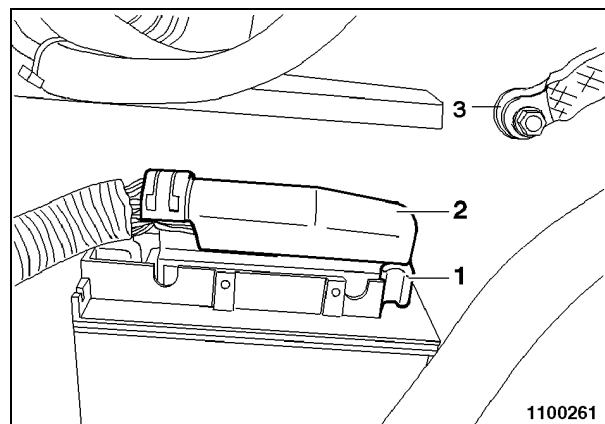

Fig. 7
The ESX is located to the right below the cab, beside the slewing ring. The grounding cable (3, Fig. 7) is located to the right beside the ESX.
- Withdraw arresting lever (1, Fig. 7) at plug forward, and withdraw plug (2) parallel from the control unit.